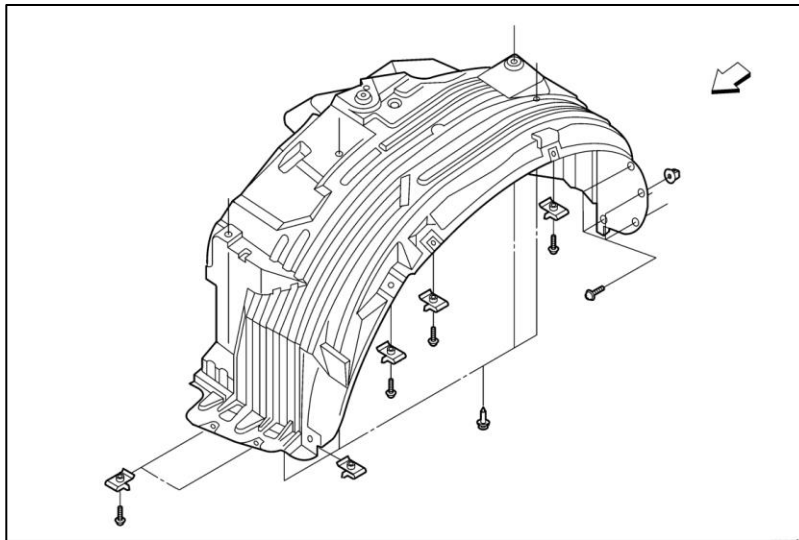

Figure 3
5. Remove the hardware securing the Driver's Side Front Fender Liner and remove the Front Fender Liner from the vehicle. It will be an assortment of clips and screws. *Figure 3.*